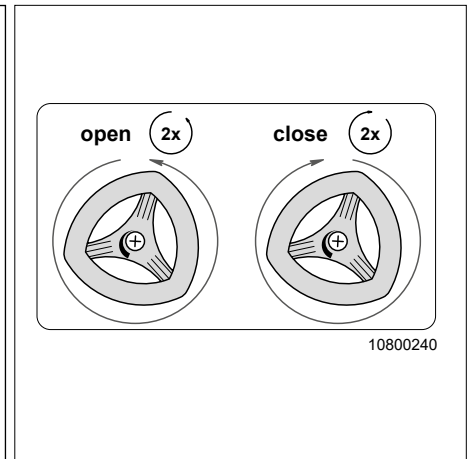

Fig. 59 Filling / emptying the fresh water tank
3. Turn drain tap (Fig. 59) clockwise to close the fresh water tank.
Tighten the drain tap (Fig. 59) finger-tight. Do not force it shut!
3. Turn drain tap (Fig. 59) anticlockwise by two turns to open the water tank.